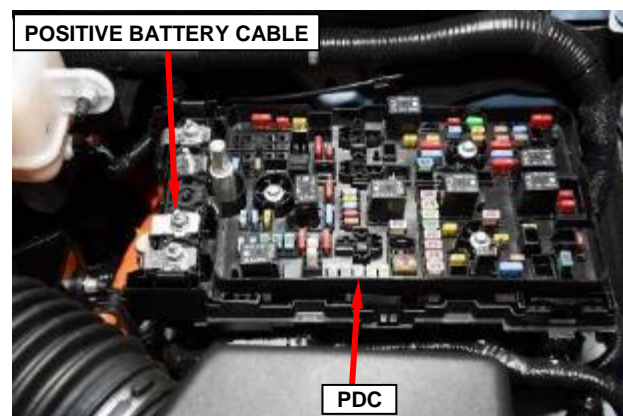

Figure 10 – Positive Battery Cable
2. Remove and save the nut securing the positive battery cable, then disconnect the positive battery cable from the 12-volt PDC (Figure 10).